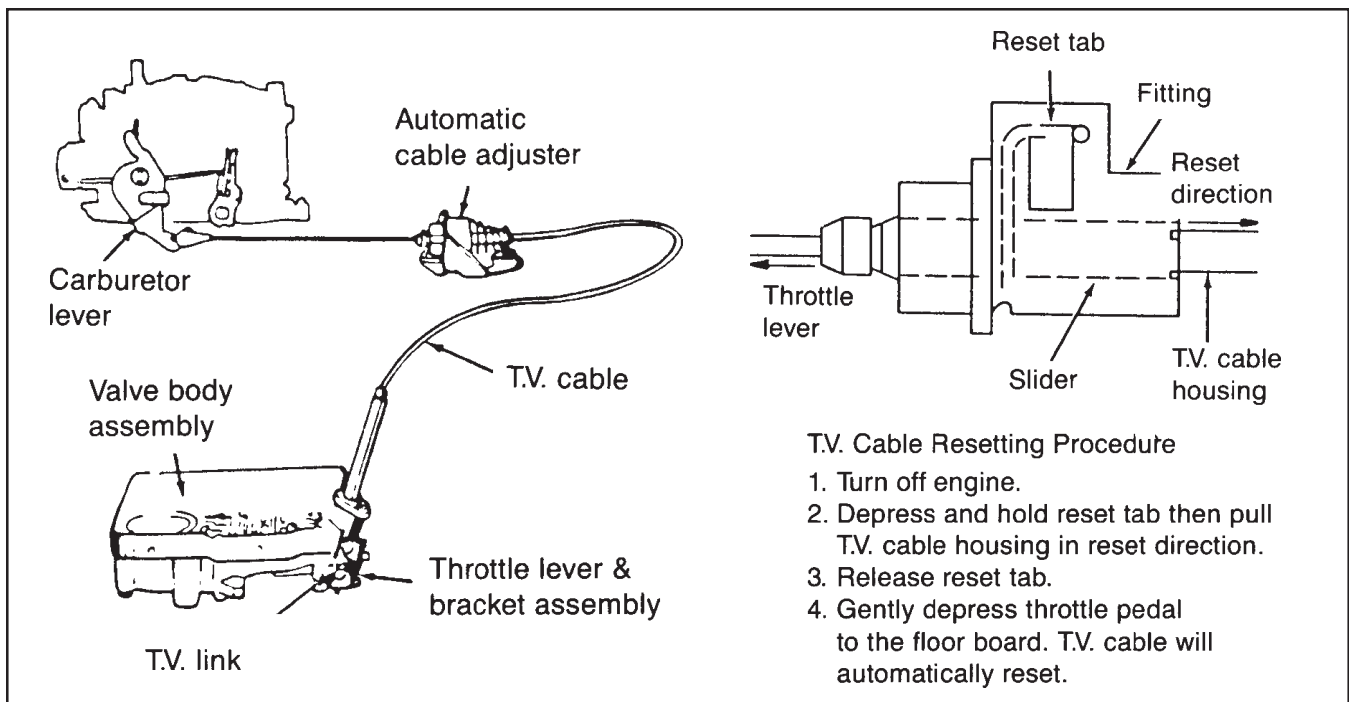

FIG. 1 Resetting T.V. Cable
STEP 8: (FIG. 1) Reconnect and adjust the TV cable.